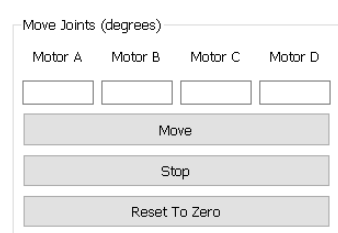

Figure 2.19: Move Joints section
**Move Joints Section** This section, as shown in Figure 2.19, contains three editors for typing angles for corresponding motors to move and buttons for starting moving motors. Once the button “Move” is clicked, the robot will move each motor by the corresponding angle submitted. The stop button causes the robot to stop where it is and the “zero” button causes each motor reset back to zero position.